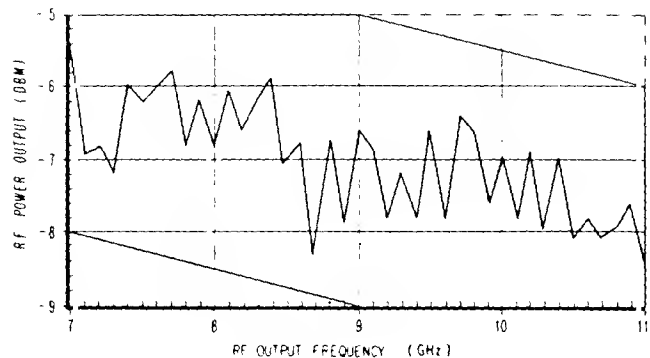

Figure 5-19. Typical Response Curve (620B)
5-93. An initial setting has now been made that will be accurate within approximately ± 5 dB. To refine this setting and obtain the original calibration accuracy of ± 2 dB it is necessary to measure the output of the signal generator across the frequency range and construct a graph showing the frequency response of the instrument. Figure 5-19 shows such a graph with a typical response curve after the power output curve has been centered about the -7 dBm reference level. The final adjustment is made by slipping the attenuator dial, while measuring the RF output level at a convenient frequency on the curve, to bring the total power spread to be within the ± 2 dB limits of the -7 dBm reference level. The limits are indicated by the heavy transverse lines above and below the -7 dBm center line. Proceed as follows:
f. Repeat steps c through e every 200 MHz from 7 GHz to 11 GHz. Plot the resulting data as a response curve such as the one shown in Figure 5-19.